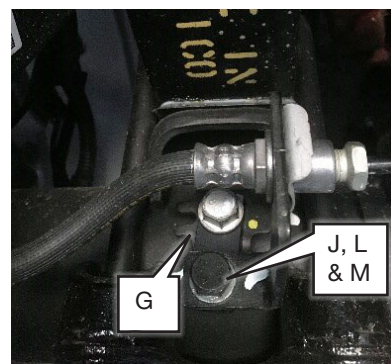

Fig. 10
8. Attach the brake line bracket to the brake line tab bracket using M8 hardware (J, L & M) on both sides of the vehicle (Fig. 10). Torque bolts to 16 lb.-ft. (22Nm).